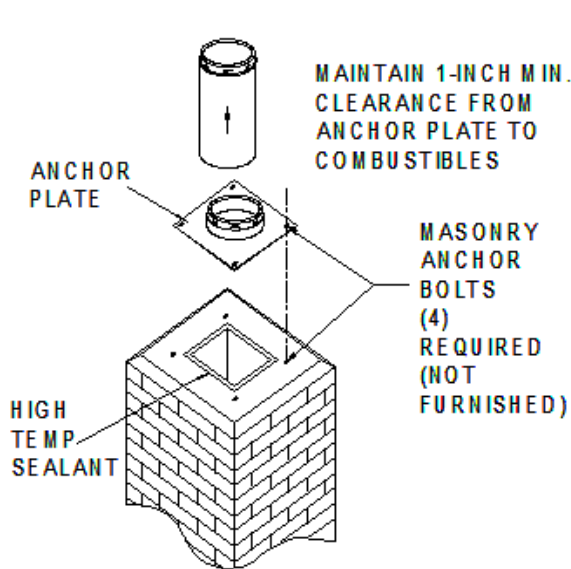

Fig 27
**2. Mount Anchor Plate:** Chimneys for masonry fireplaces begin with an Anchor Plate. Make sure the surface of the masonry chimney has a level surface on which to attach the Anchor Plate. If the top of the masonry does not have a level surface, then you will need to modify the masonry accordingly. Center the Anchor Plate over the masonry flue opening, and seal the Anchor Plate with a high-temperature (10000F) sealant. Secure Anchor Plate with (4) 1/4" x 2" masonry anchors (Fig 27). It is very important that the Anchor Plate is level. Be sure to maintain a 1" min. clearance to combustibles from the Anchor Plate.